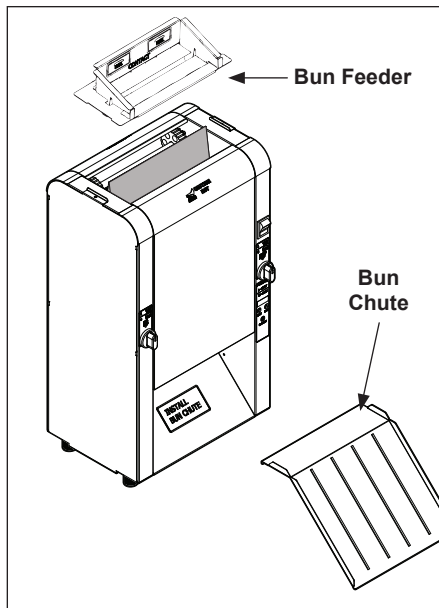

Figure 21. Remove accessories
2. Put on heat resistant gloves. Remove the Bun Feeder and Bun Chute (Figure 21). Set these items aside.